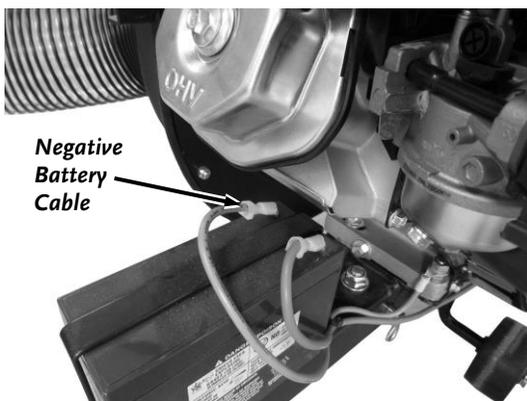

Figure 74
1. Connect the Negative Wire to the Negative Post on the Battery by sliding the Terminal onto the Battery Post (**Figure 74**).